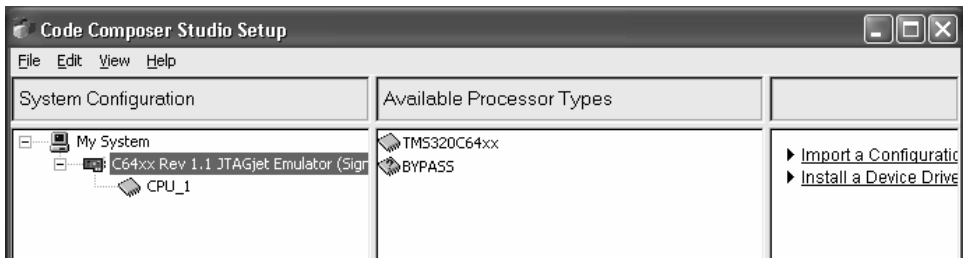

FIGURE 14 Final Code Composer Setup screen for the TMS320C6416 DSK board
4. The resulting Code Composer Setup window for the 6416 DSK should look like Figure 14.